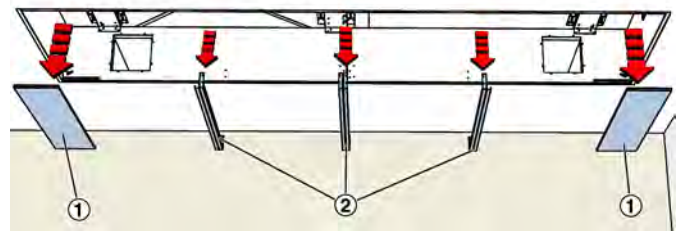

Fig. 41: Door frame installed in closed suspended ceiling
5. ▶ Remove the side panels (Fig. 41 /1) from the door frame and store them for later use. Dismantle the cross bars (Fig. 41 /2) by loosening the screws.